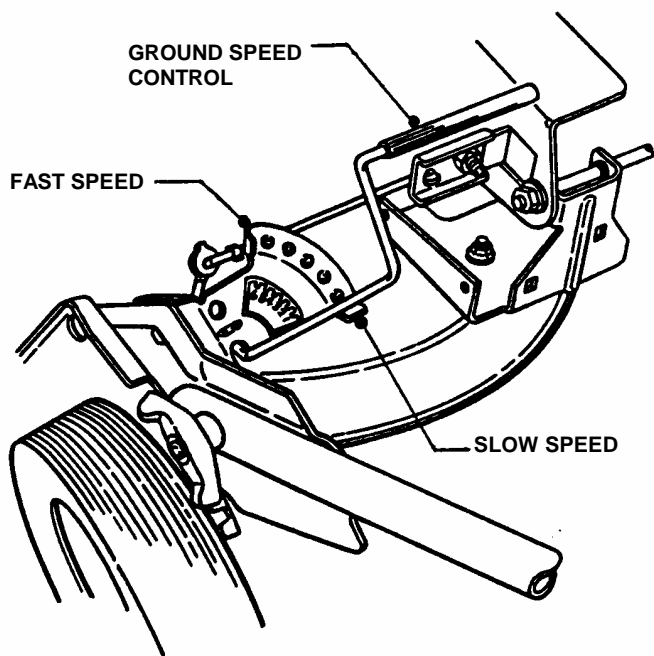

FIGURE 2.4
1. Stop engine and mower blade by releasing the blade control before adjusting ground speed. Move ground speed control to the desired speed position. See Figure 2.4.